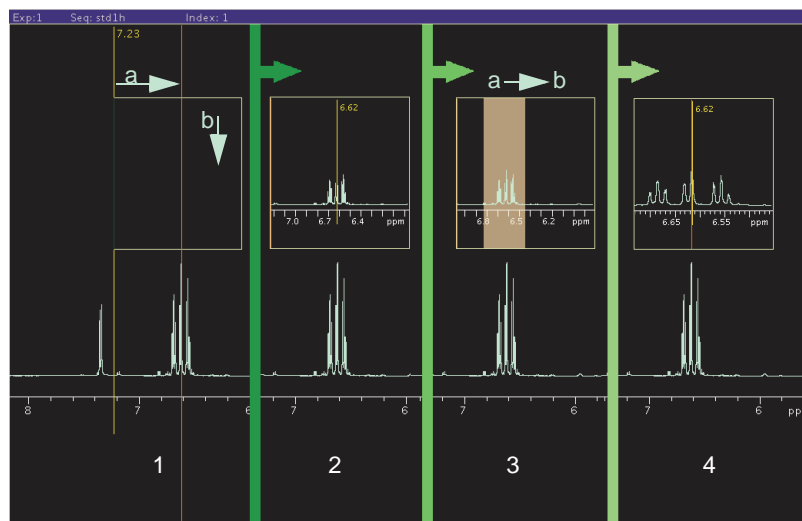

Figure 114. Creating an Inset Frame
3. Place the cursor at the low field (left) side of the region to be expanded as shown in Figure 114 frame 1a.
5. Drag the cursor down to set the height of the inset frame, see Figure 114 frame 1b.
6. Release the mouse button to create the inset frame, see Figure 114 frame 2.
4. Place the cursor at the low field (left) side of the region to be expanded as shown in Figure 114 frame 3a.
5. Hold the left mouse button down and drag the inset window to the high field (right) side of the region, Figure 114 frame 3b.
6. Release the mouse button, and the selected region expands to fill the inset box, Figure 114 frame 4.